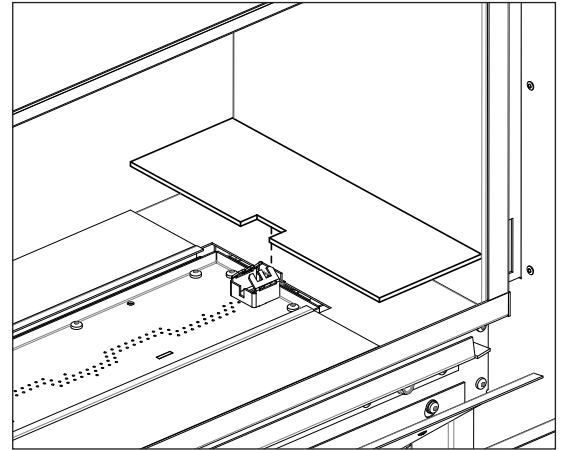

Figure 57: Bezel Placement Around Pilot
3. Ensure that the short, notched bezel is placed around the pilot assembly as shown in Figure 57.